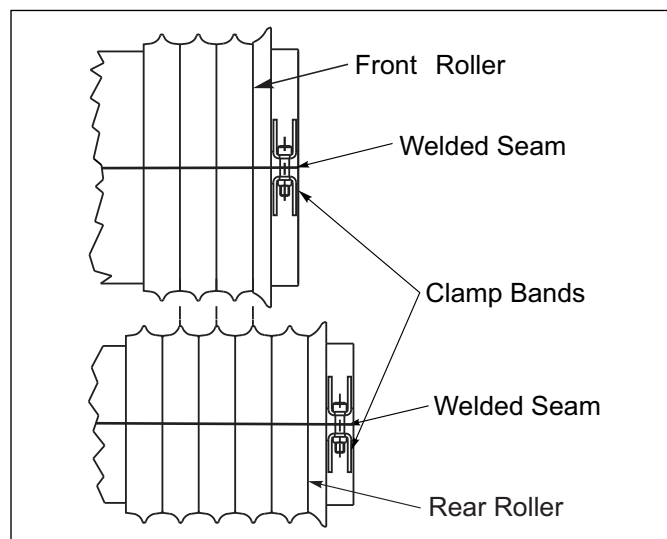

Figure 4-3: Clamp Bands
3. Slide the Clamp Band against the End Wheel on each end of the Roller and tighten the Clamp Band Bolt to 75 Ft-Lbs. **Figure 4-3.**